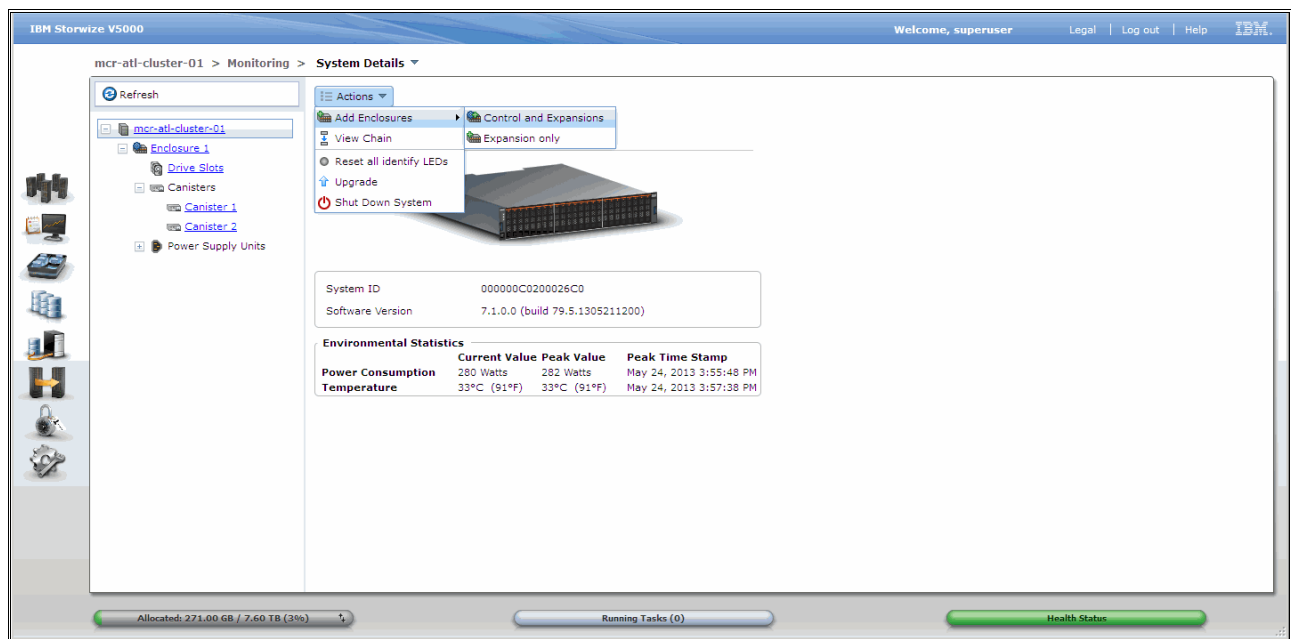
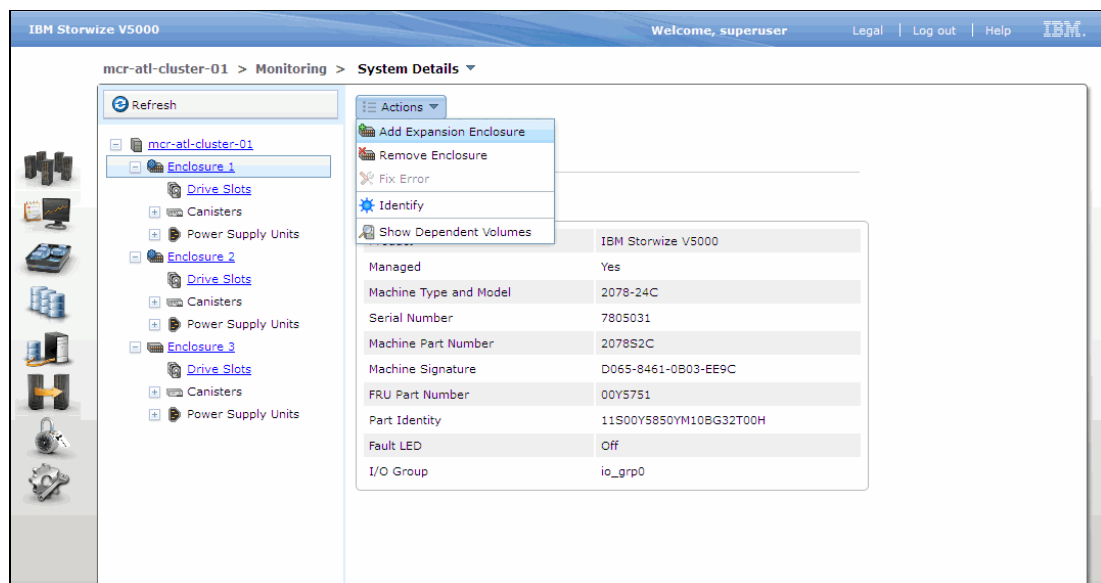

Figure 2-33 Option to add a control enclosure
Figure 2-42 Adding an expansion enclosure
1. In the Monitoring tab, select **Actions** → **Add Enclosures** → **Control and Expansions**, as shown in Figure 2-33.
1. In the Monitoring tab, select **Actions** → **Add Enclosures**, as shown in Figure 2-42. If you have a four-node cluster (two control enclosures), the only option that is available is to add an expansion enclosure. If you have a two-node cluster (a single control enclosure), you have the options that are shown in Figure 2-33 on page 59. In this case, select **Expansion only**.